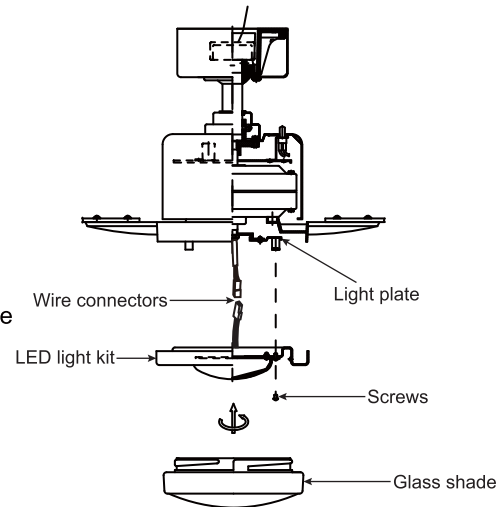

Fig. 18
Step 1. Loosen the three mounting screws on the inside of the LED light kit. (Fig.18)
Step 2. While holding the LED light kit under the fan motor, make the wire connections: (Fig. 18)
Step 3. Tuck the connections neatly into the light plate. Place the key holes on the LED light kit over the 2 screws previously loosened from the light plate, turn the LED light kit until it locks in place at the narrow section of the key holes. Secure by tightening all three screws. (Fig.18)
Step 4. Raise the glass shade against the light kit and turn clockwise until snug, **DO NOT OVERTIGHTEN.** (Fig. 18)